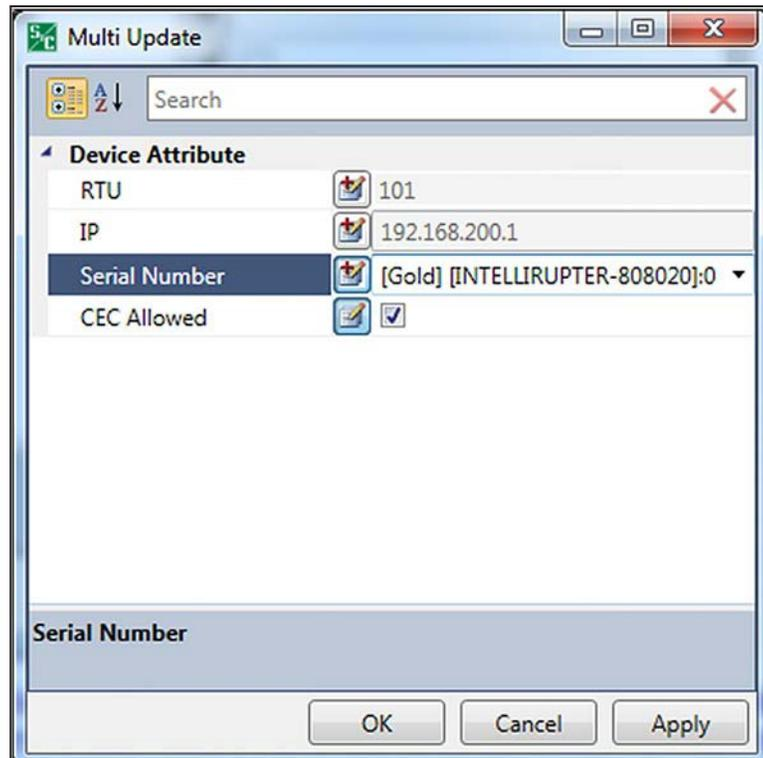

Figure 72. CEC Allowed value is selected.
**STEP 11.** Toggle the **Serial Number** button and select a starting serial number. Also toggle the **CEC Allowed** button and check the box for CEC Allowed. See Figure 72.